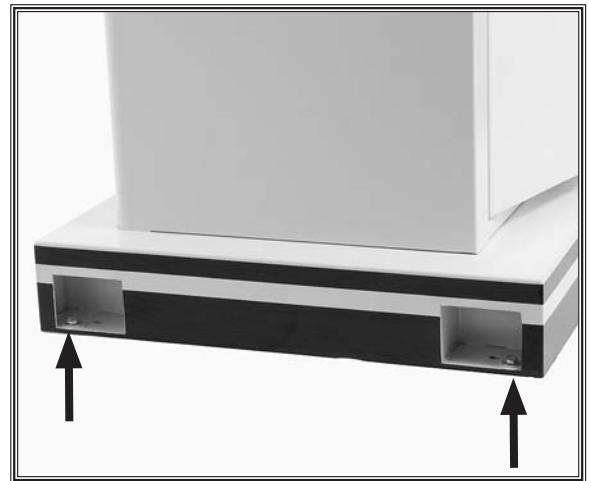

Figure 4. Example of where machine is bolted to the pallet (shows only one side; machine is also bolted on other side).
1. Unbolt the base of the dovetail machine from the shipping pallet (**Figure 4**), so it can be removed for placement.